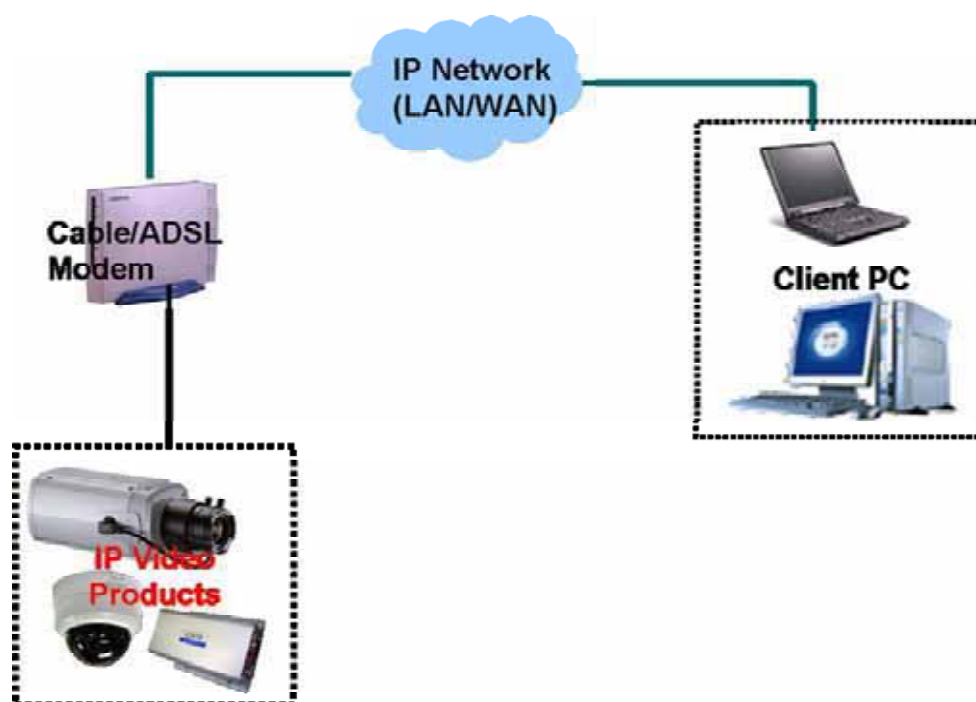

Figure 3-2. Connecting the iCanView220/220W to ADSL Modem
2. Install iCanView220/220W and connect it to xDSL or Cable modem as in Figure 3-2.